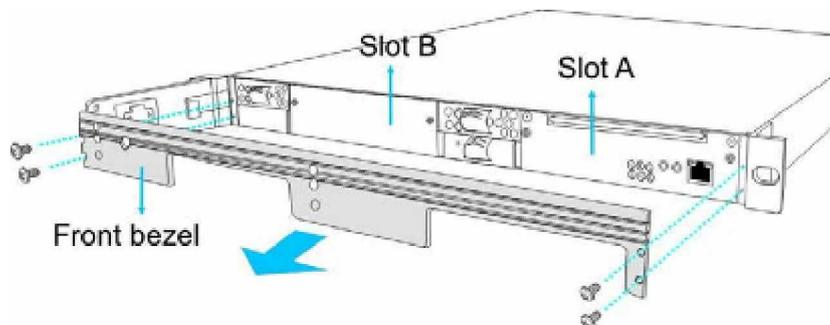

Figure D-2: Remove the Front Bezel
- Step 2.** Remove the plastic front bezel. To remove the bezel, remove the retention screws that secure the bezel to the chassis. (See **Figure D-2**)